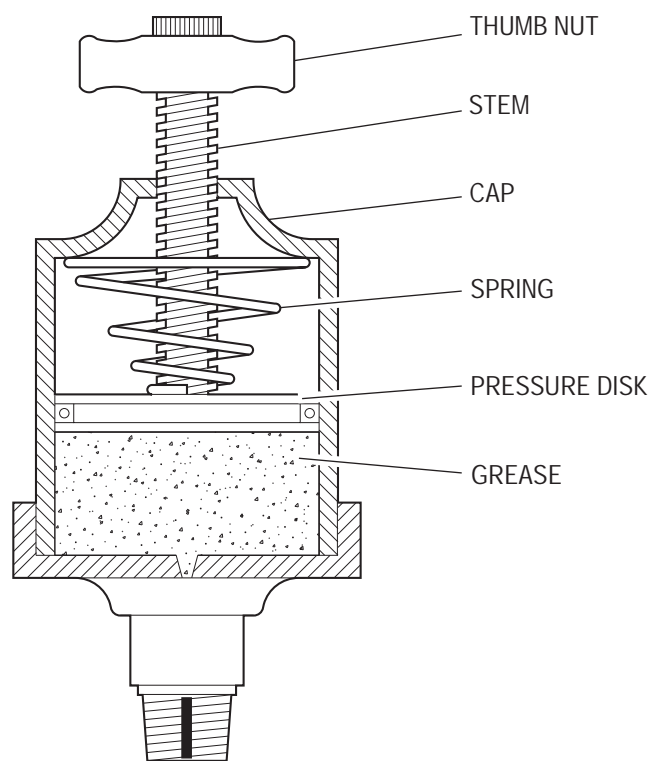

Figure 1 – Automatic Pressure Lubricator Components
- B. Check automatic pressure lubricator at pump. If the stem is fully extended, with thumb nut all the way up, the automatic pressure lubricator contains lubricant. If not, lubricant must be replaced by the following procedure (See Figure 1):